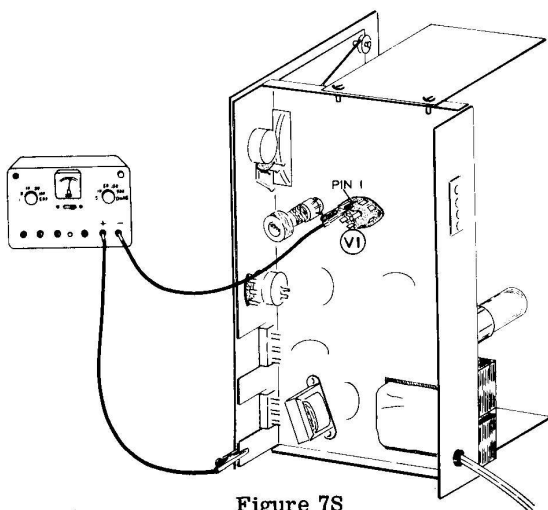

Figure 7S
① Tighten the adjustment screw of the oscillator trimmer capacitor until it stops turning easily. Do not overtighten this adjustment.
② Turn the adjustment screws for the tuned RF transformer and the broadcast oscillator coil all the way in. At this point only about 1/8" of the adjustment screw should be protruding above the coil.
- () Place the chassis on its side as shown in Figure 7S.